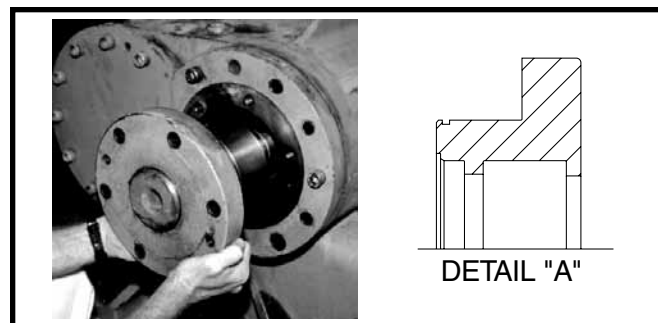

Figure 2.
3. See Figure 2. Loosen socket-head capscrews and remove housing cover (1). If the housing cover looks like the one shown in Figure 2 Detail "A", this unit is the later style which has a lip seal in addition to the shaft seal. Go to step 4. If it is different, you have an original style unit. Continue to step 4 and ignore references to lip seal and retaining ring. The standard Shaft Seal Kit will repair all 355 shaft seals.